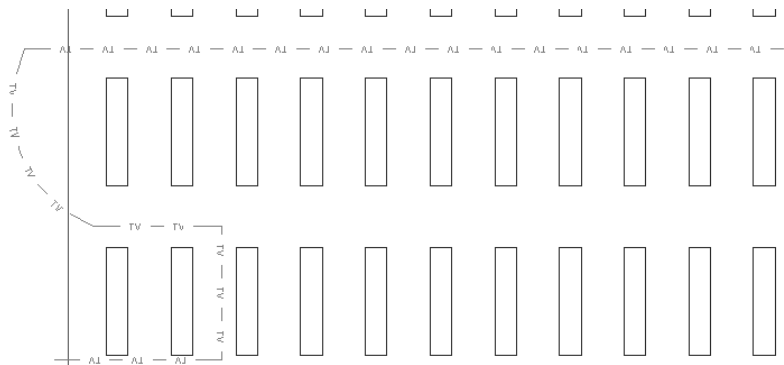

Figure 31-5: The TV linetype.
9. Draw some lines or polylines. Zoom in to see the linetype more clearly. Figure 31-5 shows the resulting linetype.